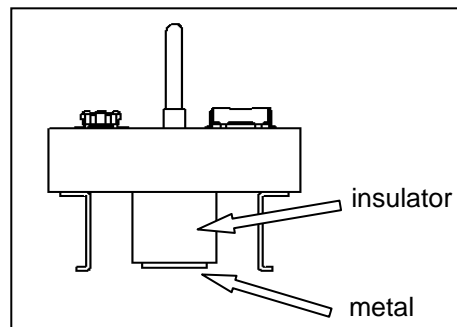

Figure 2-4. TC protrusion
- (1) Apply cream solder to the foot pattern of the target system for mounting an IC.
- (2) There is a circular protrusion (Figure 2-4) in middle of the bottom of the TC. The center of this cylinder is a metallic component (metal plated) for the GND connection. In the same manner as the IC pad, the TC GND is connected to the target board GND by applying cream solder to the pad in the center of the recommended IC foot pattern and then reflow soldering.
- (3) Soldering condition of TC